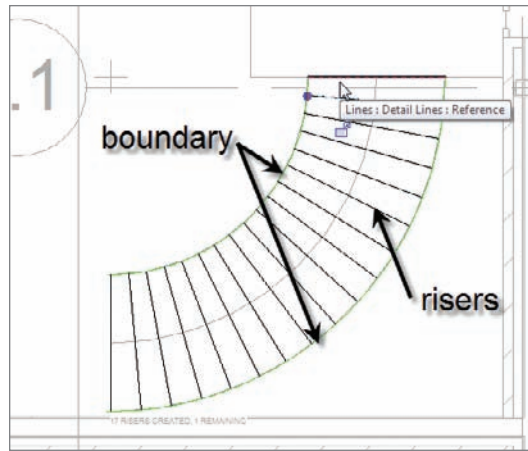

FIGURE 10.46 Picking the detail lines to lay over the stair components
6. Pick all of the lines you arrayed. This includes the bottom and the top lines (see Figure 10.46).